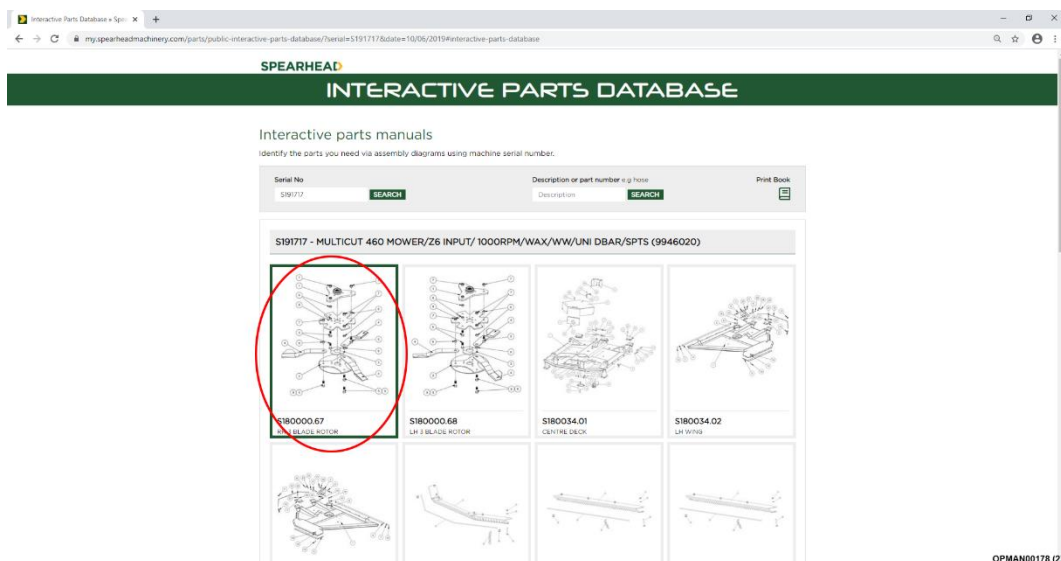

Figure 19 – Click On Assembly
7.1.1.3 After clicking on the serial number a full parts breakdown, specific to the machine serial number will appear showing the various parts and assemblies of the machine. Click on the specific assembly picture required; see Figure 19.